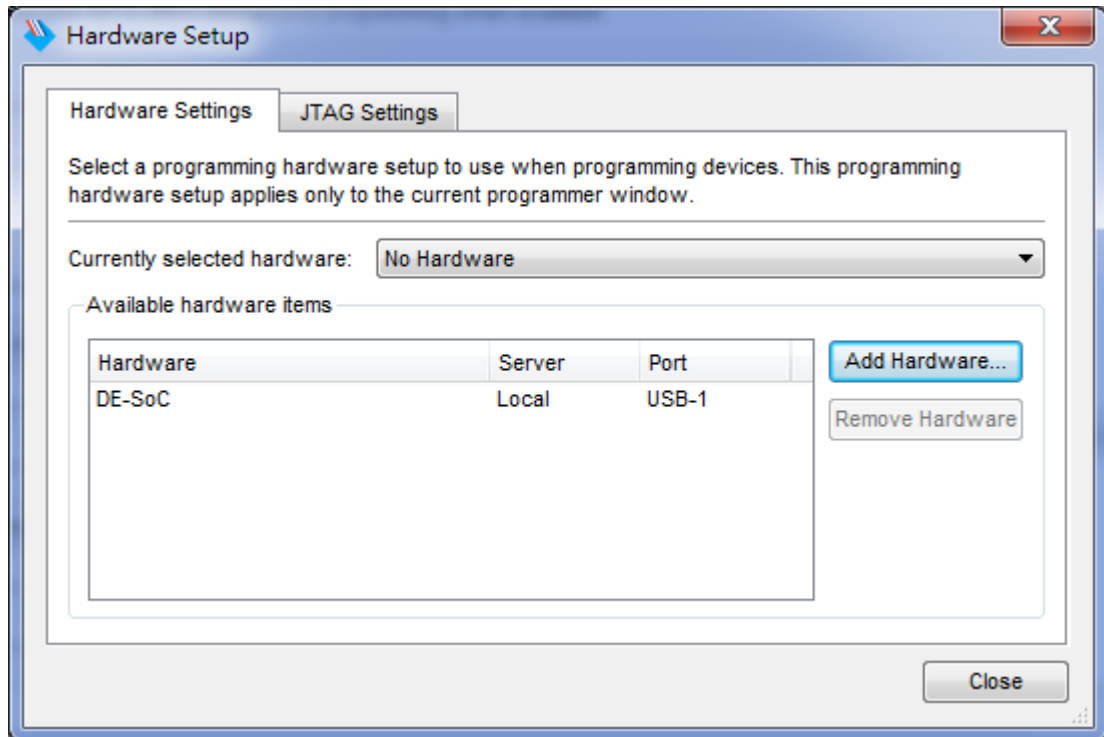

Figure 4-4 Hardware Setting
3. If it is not already turned on, turn on the DE-SoC [USB-1] option under currently selected hardware. See Figure 4-4.